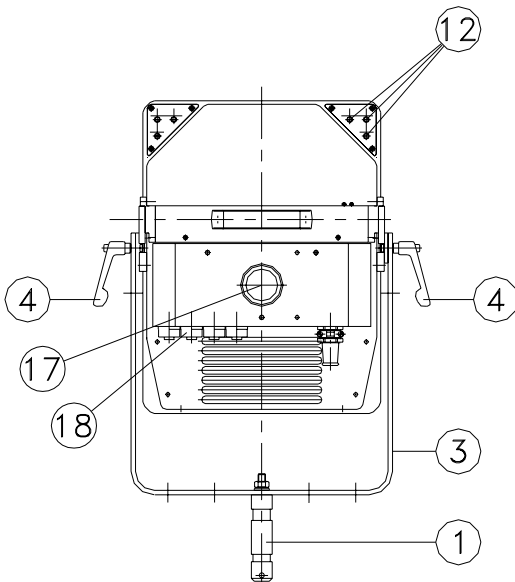

Figure 4
9.1) Top control panel (fig.4)
On-switch, green (fig.4/ 19)
Off-switch, red (fig.4/ 20): glows when the supply voltage is switched on
Code switch for DMX addresses (fig.4/ 21)
Termination switch (fig.4/ 22)
Timer switch (fig.4/23)
Control circuit fuse (fig.4/ 24): 10 AT
Timer (fig.4/ 25): see attached instructions
Main circuit breaker (fig.4/ 26): LSS 3 pole, 16 A
On-switch (fig.4/ 19)
Off-switch (fig.4/ 20)
DMX address coding (fig.4/ 21)
DMX termination (fig.4/ 22), if necessary
For 10.1) and 10.2): switch off timer switch (fig.4/23)
Put the timer switch in the on position (fig.4/ 23)
For timer (fig.4/ 25) see operating instructions in the Appendix of chapter 17 (pages 12-16)